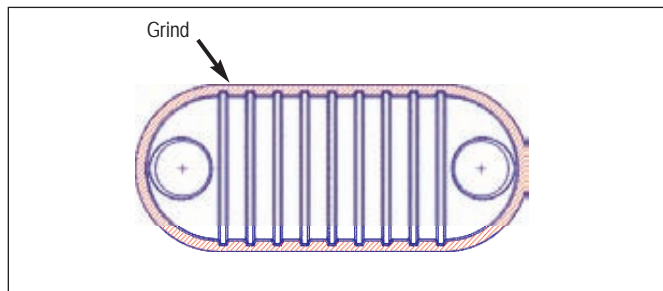
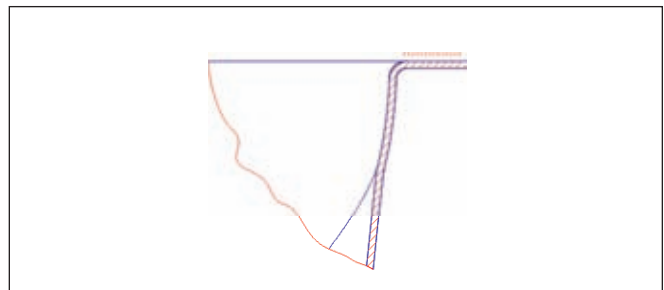

FIGURE 6-1
FIGURE 6-2
- 6.1.5. For the bonding flanges, on the top and bottom shell, grind the total surface of the flange from side to side and all the way around the tank. (See FIGURE 6-1 and FIGURE 6-2.)